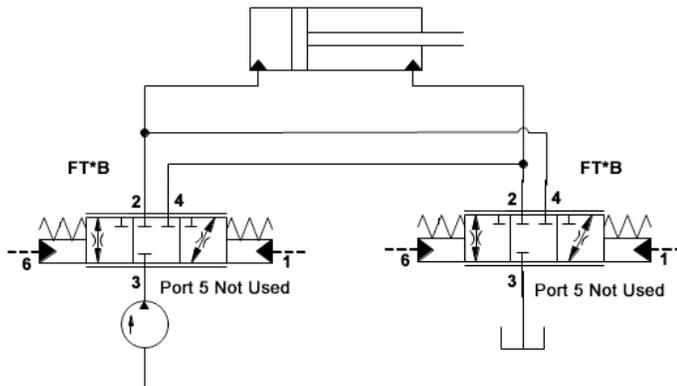

Figure 18 - Two 3/3-Way FT\*B valves create a 3/4-Way, closed-center function.
- Two FT\*B valves can create a 3/4-way closed center, meter-in/meter-out function. (See **Figure 18**) Note: closed loop control using actuator position feedback is recommended for this type of circuit.